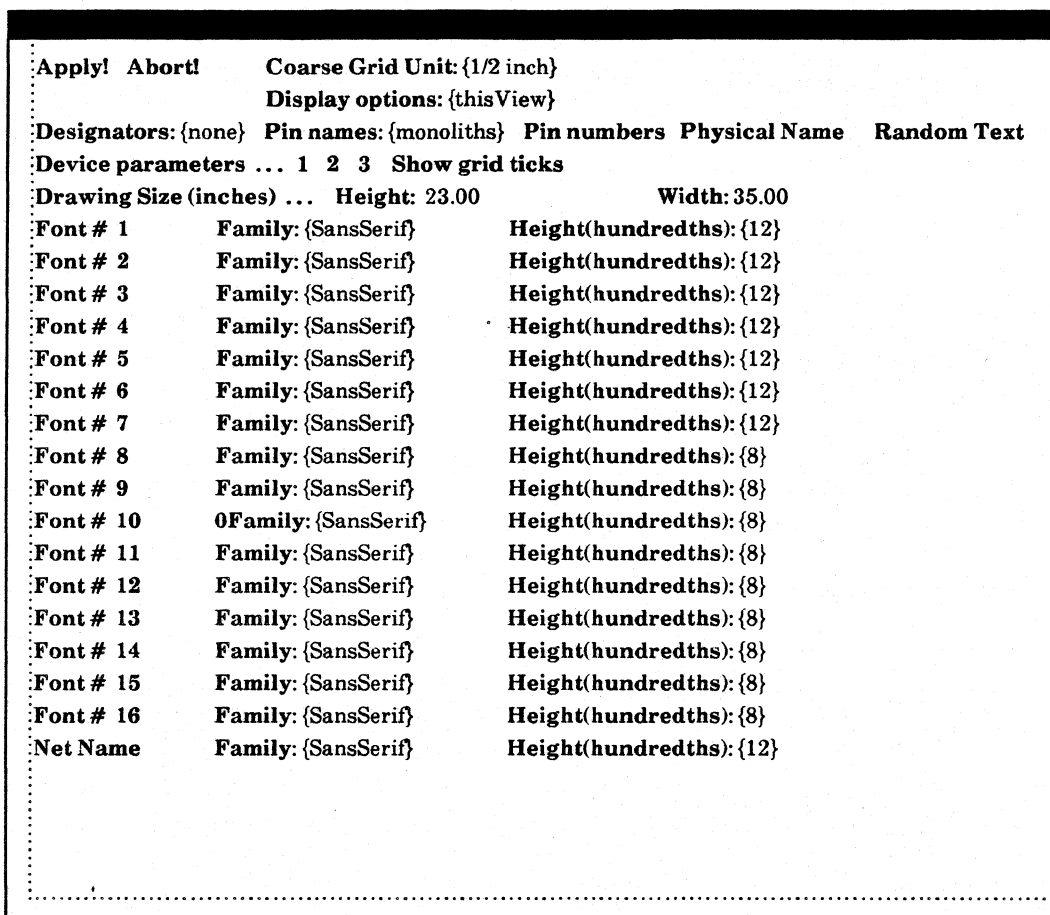

Figure 2.47
- 5) Select **Props!** to open the schematic window property sheet. In the property sheet is a list of fonts, numbered from one to 16 (figure 2.47). Each font has a family and a height property. These fonts correspond to text fonts in the symbol library. For instance, the pin names and numbers may be assigned font one, device parameters may be assigned font three, and symbol designators may be assigned font five. By assigning family and height properties to a certain font, you instruct the system to display text assigned to that font with those properties. If pin names are assigned font one, and you assign font one to family Sans Serif with a height of eight, the system displays all pin names as 8-point Sans Serif. At the bottom of the list of fonts are family and height properties for net names.